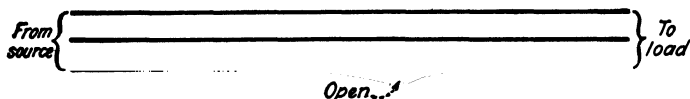

FIG. 20-3. Open in one conductor of three-phase line.
**Open Circuit.** A line is said to be "open-circuited" when one or more of the conductors of the line is broken and the broken ends are separated (Fig. 20-3). Broken conductors may be caused by heavy sleet and wind, causing an excessive weight on the conductors; or they may be burned apart in case of an accidental short circuit; etc. A broken conductor, besides causing an open circuit, often also causes a ground. The breaking of the conductor permits the ends to fall to the ground and come in contact with the earth. The cross or short circuit may, therefore, cause the other two faults at the same point in the line; and although the first fault was only a cross, the result may be a short circuit, open circuit, and ground.